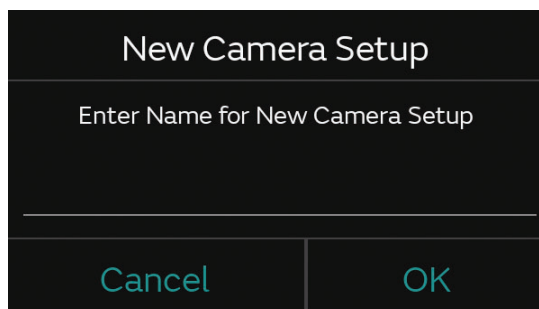

Figure 22. Name of new Camera Setup
5. **Enter** the name of the New Camera Setup and tap **OK** (Figure 22).
8. **Enter** the name of the New Camera Setup refer to (Figure 22) and tap **OK**.